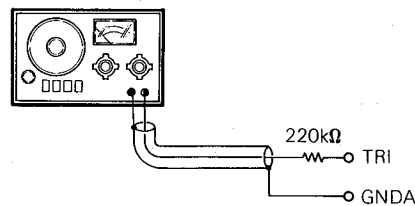
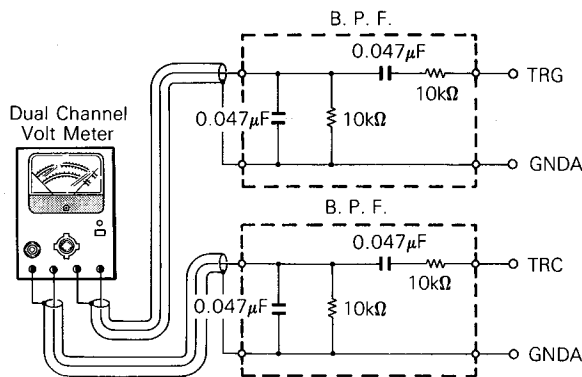

Fig. 24
Fig. 25
- (1) Connect the audio frequency oscillator with 220k ohm resistor to TRI and GNDA. (fig. 24)
- (2) Set the audio frequency oscillator for 800Hz, 20mV.
- (3) Connect AC voltmeter to B.P.F. (fig. 25)
- (4) For the measurements indicated below it is convenient to connect extending wires to TRG, TRC and GNDA.
- (5) Insert the Philips test disc #5 and place the unit in the play mode on track number 8.
- (6) Connect B.P.F. to test point TRG and GNDA and then to TRC and GNDA. Measure the output level at each point. (fig. 25)
- (7) Adjust VR106 so that the voltage difference between TRG and TRC becomes 14dB  $\pm$  2dB. (TRG - TRC = 14dB)
- (8) Check tracking offset in step 6-10 and repeat step 6-10 and step 6-11 if necessary.